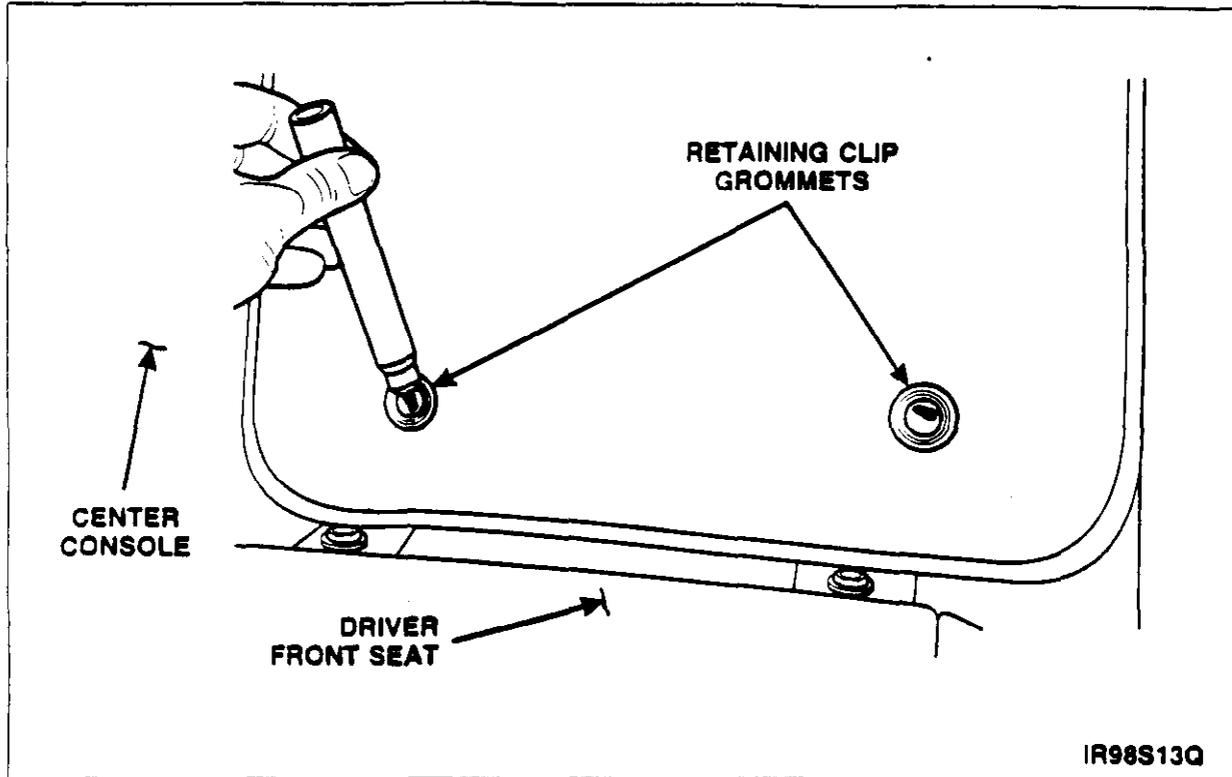

FIGURE 22
9. On all 1997 and 1998 models, position revised driver side floor mat into installed position (rear edge of floor mat position against front seat anchors). Refer to Figure 22.
10. Using marker, mark retaining clip grommet locations on carpet. See Figure 22.